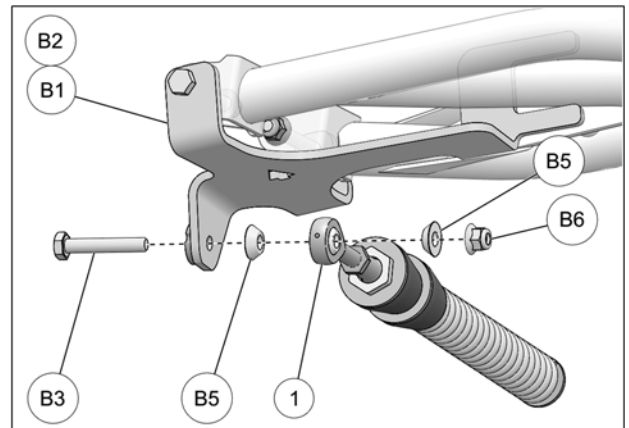

Fig. 10
- Attach stabilizing rod (1) to anchor bracket (B1-B2), using bolt (B3), taper spacer bushings (B5), and nut (B6). Torque to $70 \text{ N}\cdot\text{m}$ [$52 \text{ lb}\cdot\text{ft}$]. See Fig. 10